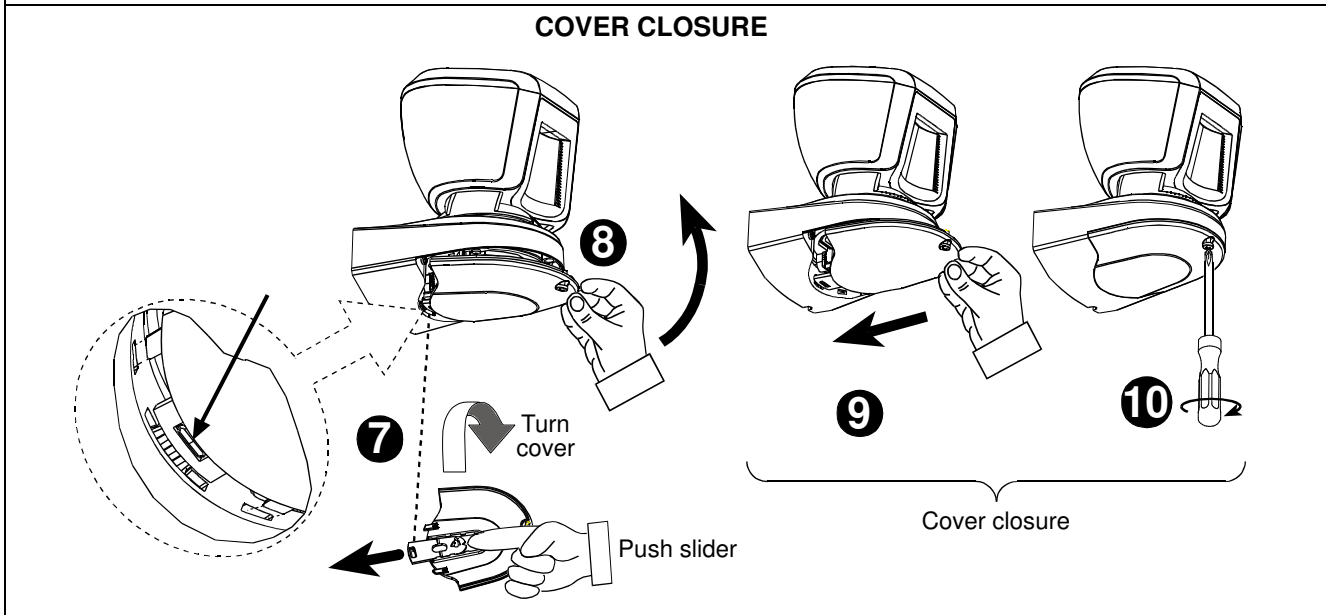

Figure 5 - Adjustment and Cover Closure
B. Adjust detector's horizontal and vertical angles (see Fig. 5), according to the surveyed ground surface. The vertical angle indicator position for various installation height and coverage distance combinations is detailed in Table 2 (the information refers to a relatively flat surveyed area. however, in any case the vertical adjustment should be verified by walk-test).
The LED blink, described above, is operative only in Walk-Test mode. Upon each full detection, (LED lights steadily for 2 seconds) the control panel receives the alarm. If required, perform the detector's horizontal / vertical adjustments (see section 3.4 and Figure 5).
3.6 Cover Closure (see Fig. 5, steps 7-10)